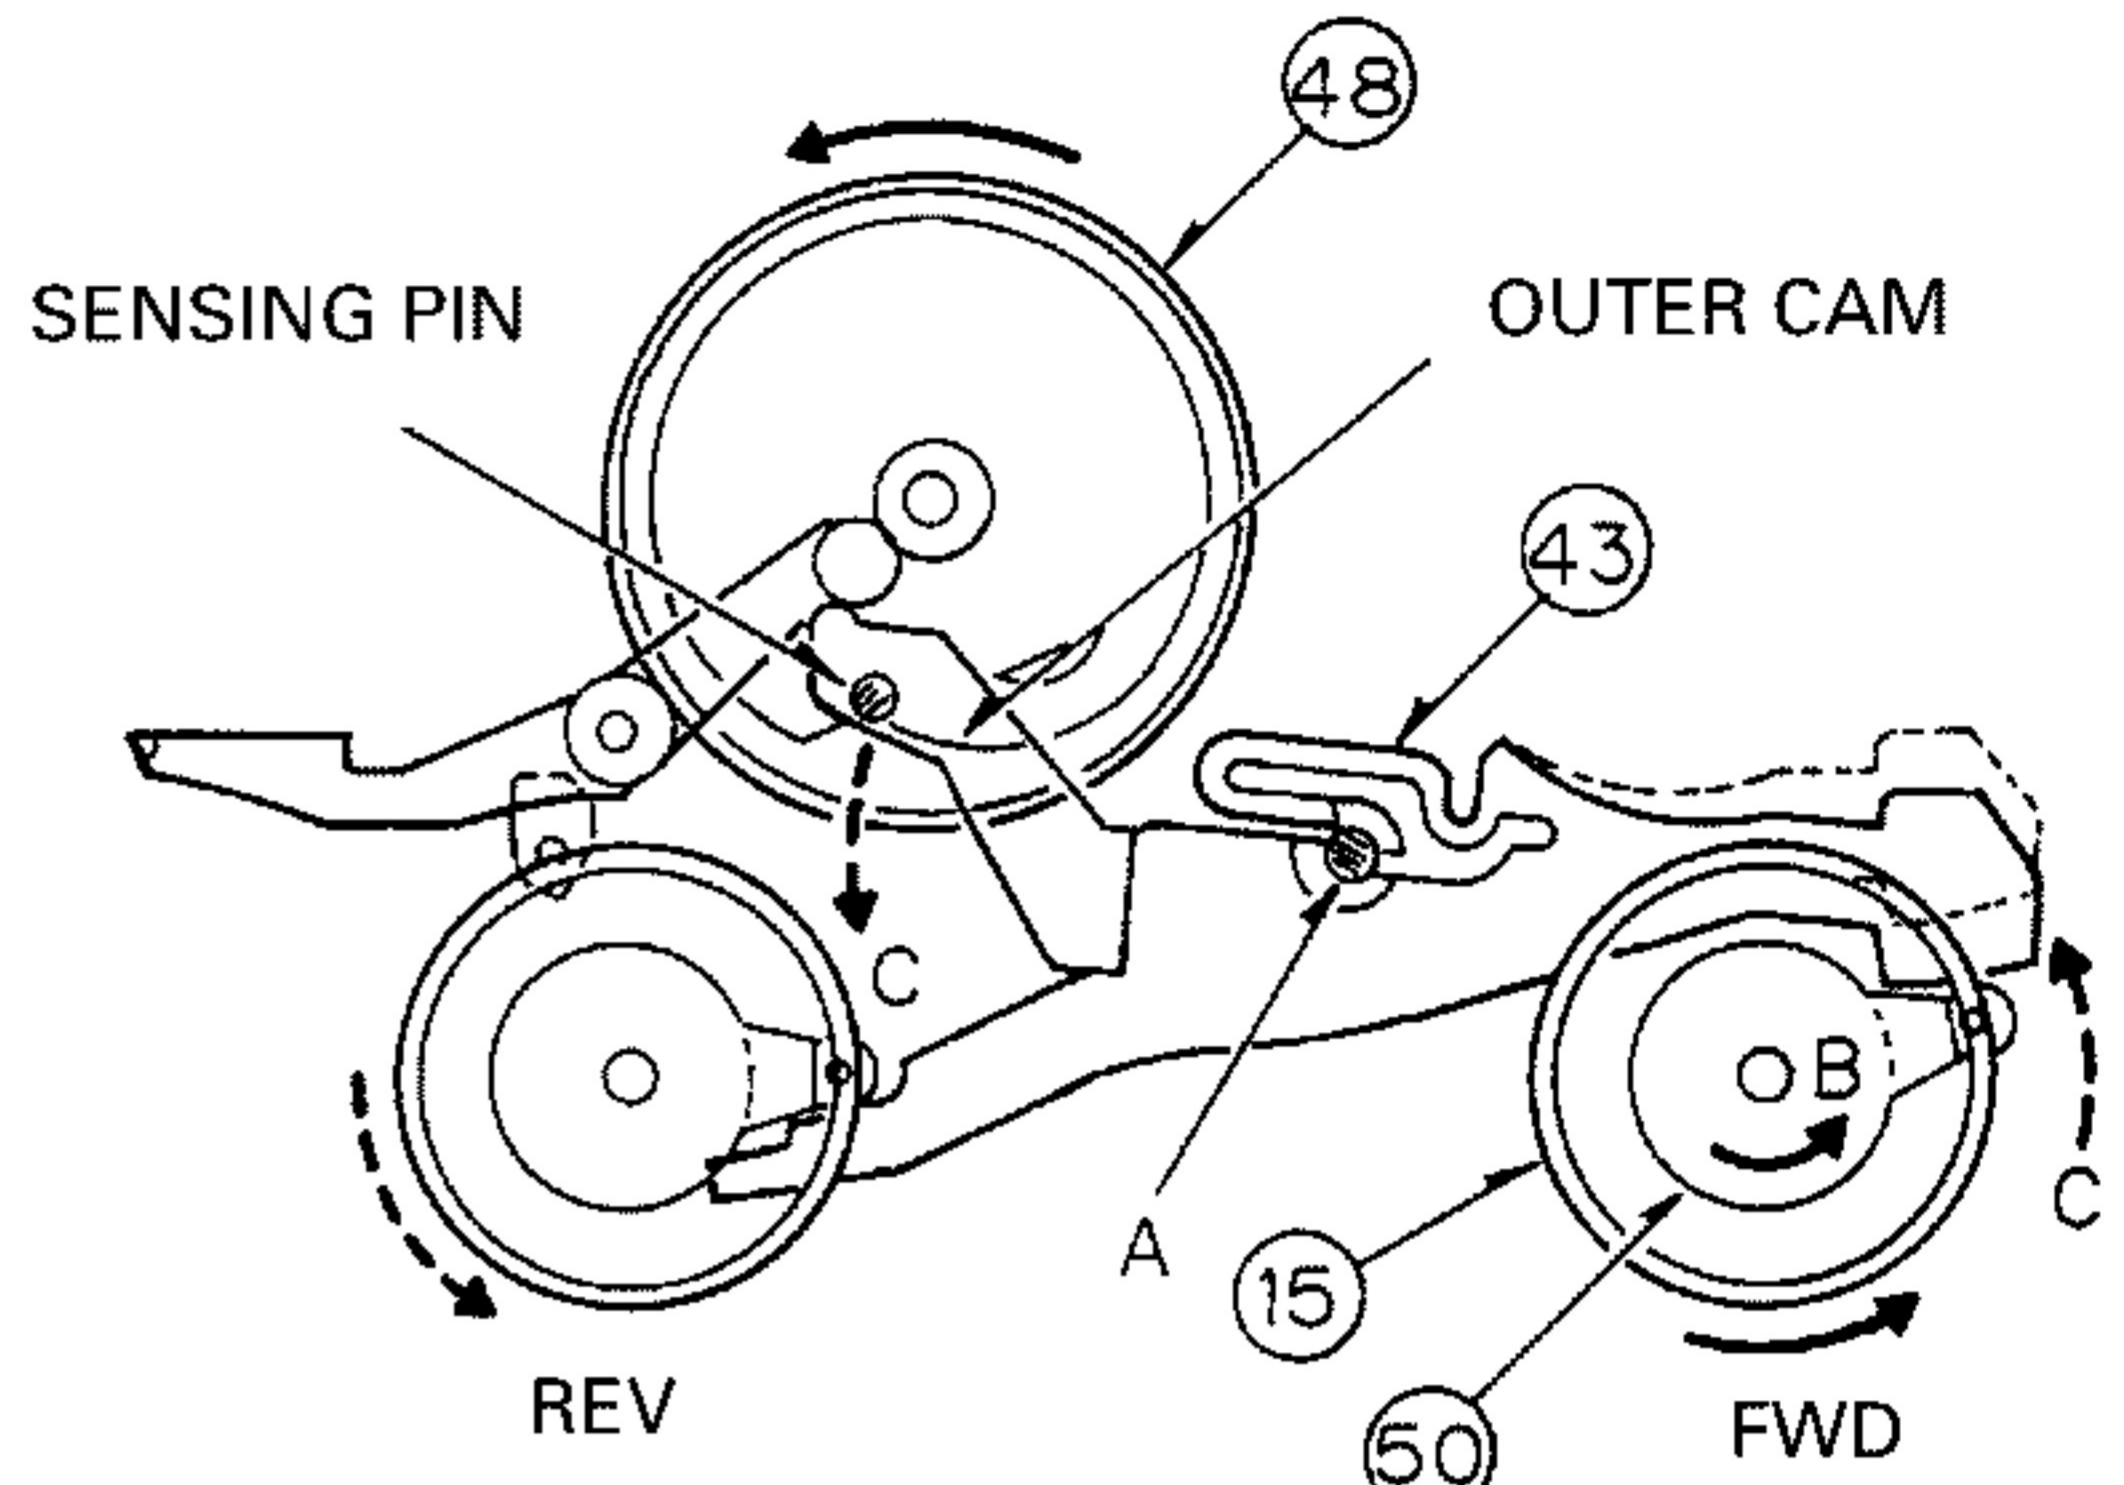

Fig. 3
(1) The Detector Cam Assy 50 generates rotational power in the direction B as shown by an arrow in the Fig.3 as the Reel Spindle Assy (D) 15 rotates.
(2) The Sensor Arm 43 turns as shown by the arrows C in the Fig. 3, on the fulcrum A by the rotational force of the Detector Cam Assy 50.
(3) The Detector Gear 48 always rotates. The sensing pin of the Sensor Arm 43 moves along the outer cam.
(4) When the Reel Spindle Assy (D) 15 stops (or tape rewinding is completed), the Detector Cam Assy 50 also stops.
(5) When the Detector Cam Assy 50 stops, the Sensor Arm 43 also stops turning in the direction C (Fig.3), and stands still.